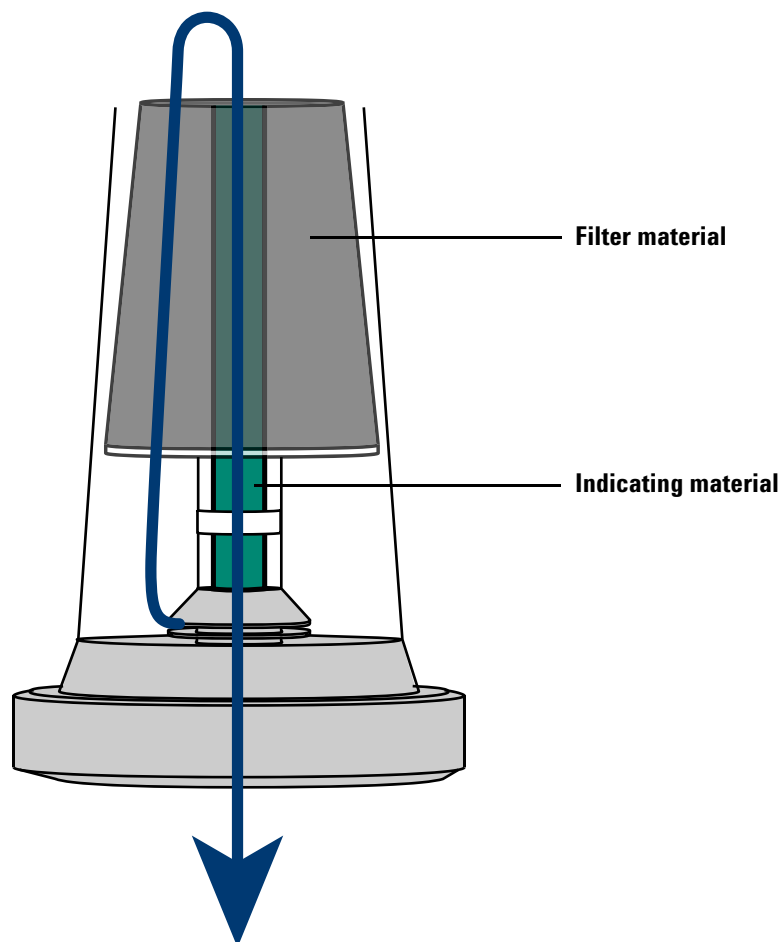

Figure 39. Flow of gas through the Gas Clean Filter
Gas flows in an upward direction from the bottom of the filter to the top, and then downward through the filter material, indicating material, and out the bottom of the filter (see **Figure 39**).
- 4 Remove the saturated filter by unscrewing the knurled or plastic ring nut that secures the filter to the connecting unit (**Figure 39**).